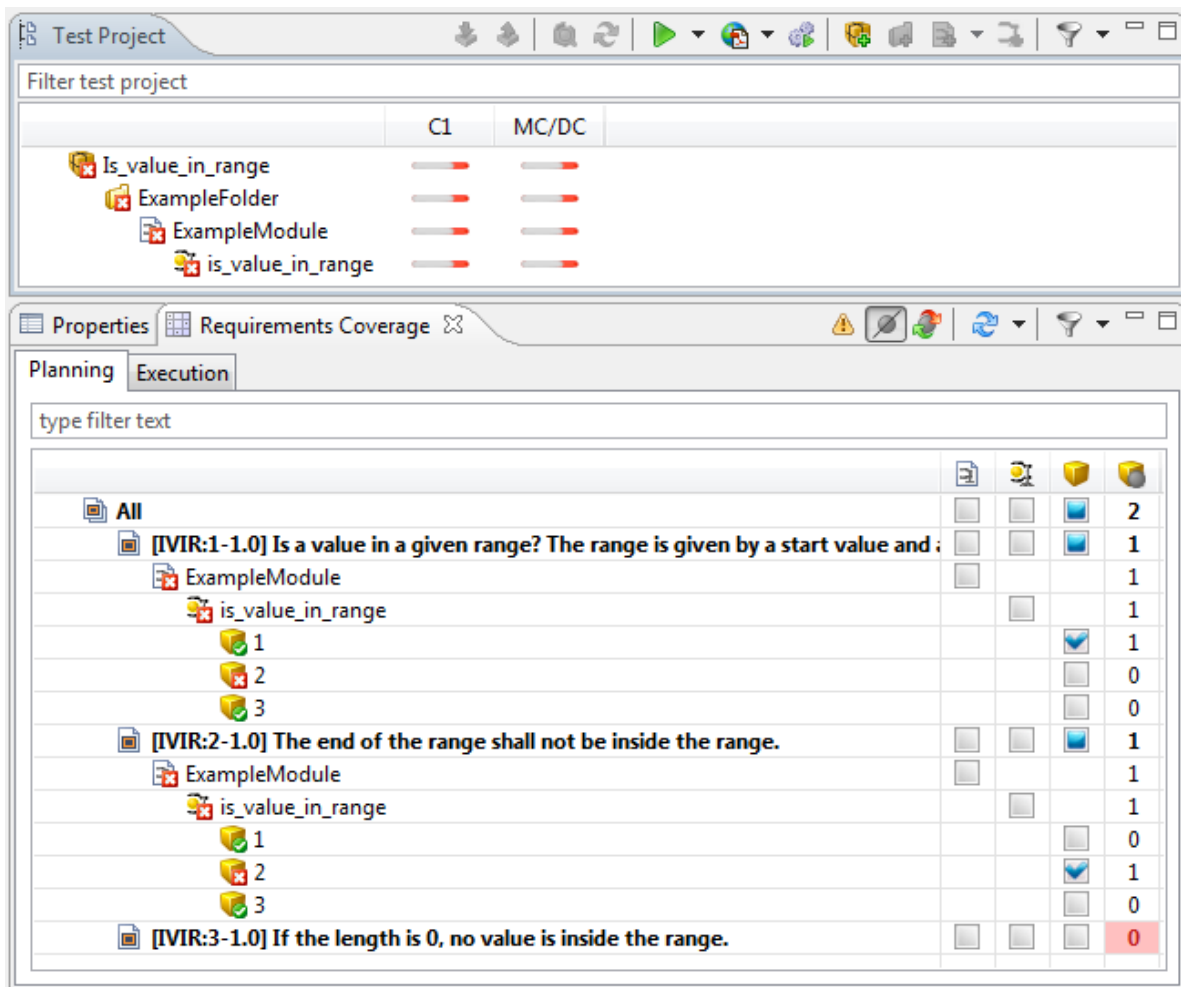

Figure 5.34: Linking test cases with requirements
- Link the second test case with the second requirement (see figure 5.34).